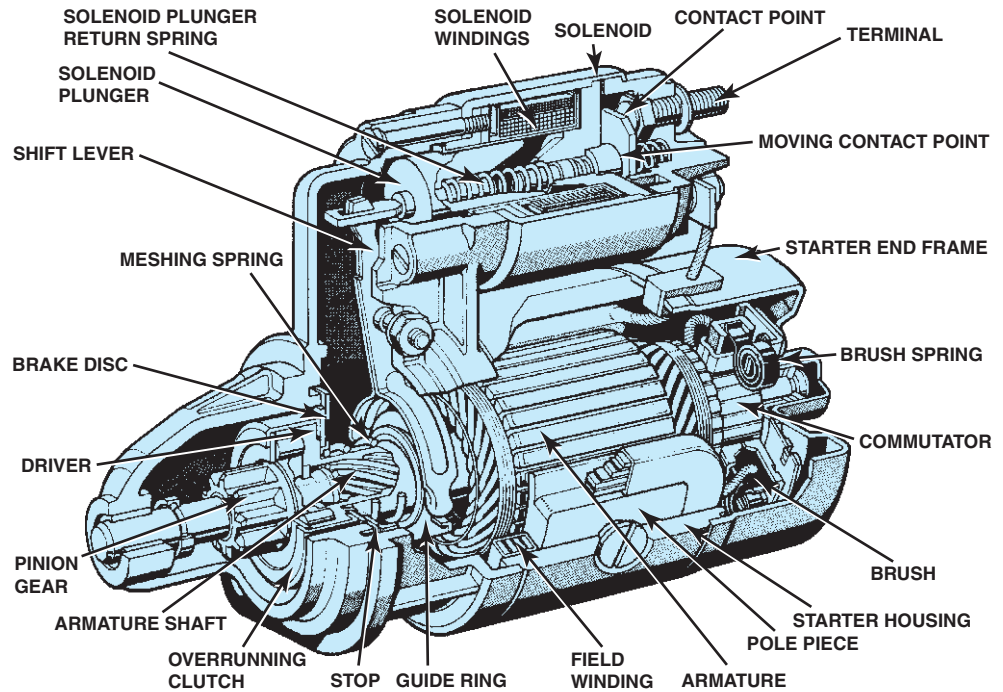

FIGURE 15-18 A cutaway view of a typical starter motor.
1. **Starter motor.** The starter is normally a 0.5 to 2.6-horsepower (0.4 to 2.0-kilowatt) electric motor. See Figure 15-18 on page 240.